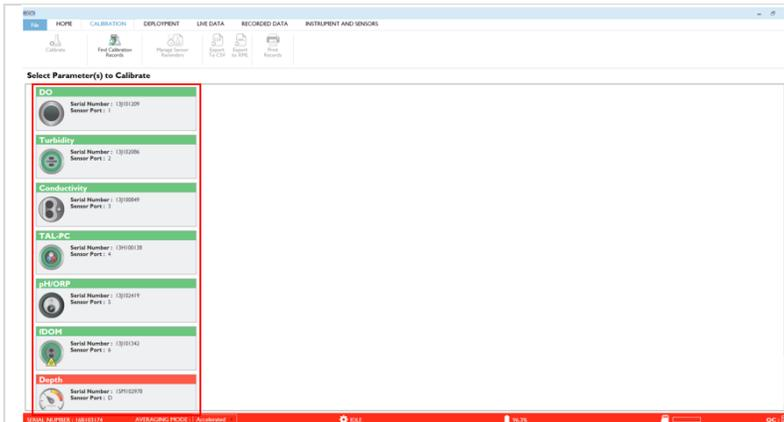

Figure 86. Select parameters for calibration.
**STEP 10** | Select Under the Calibration section, it lists each sensor probe on the left of the screen (**Figure 86**).